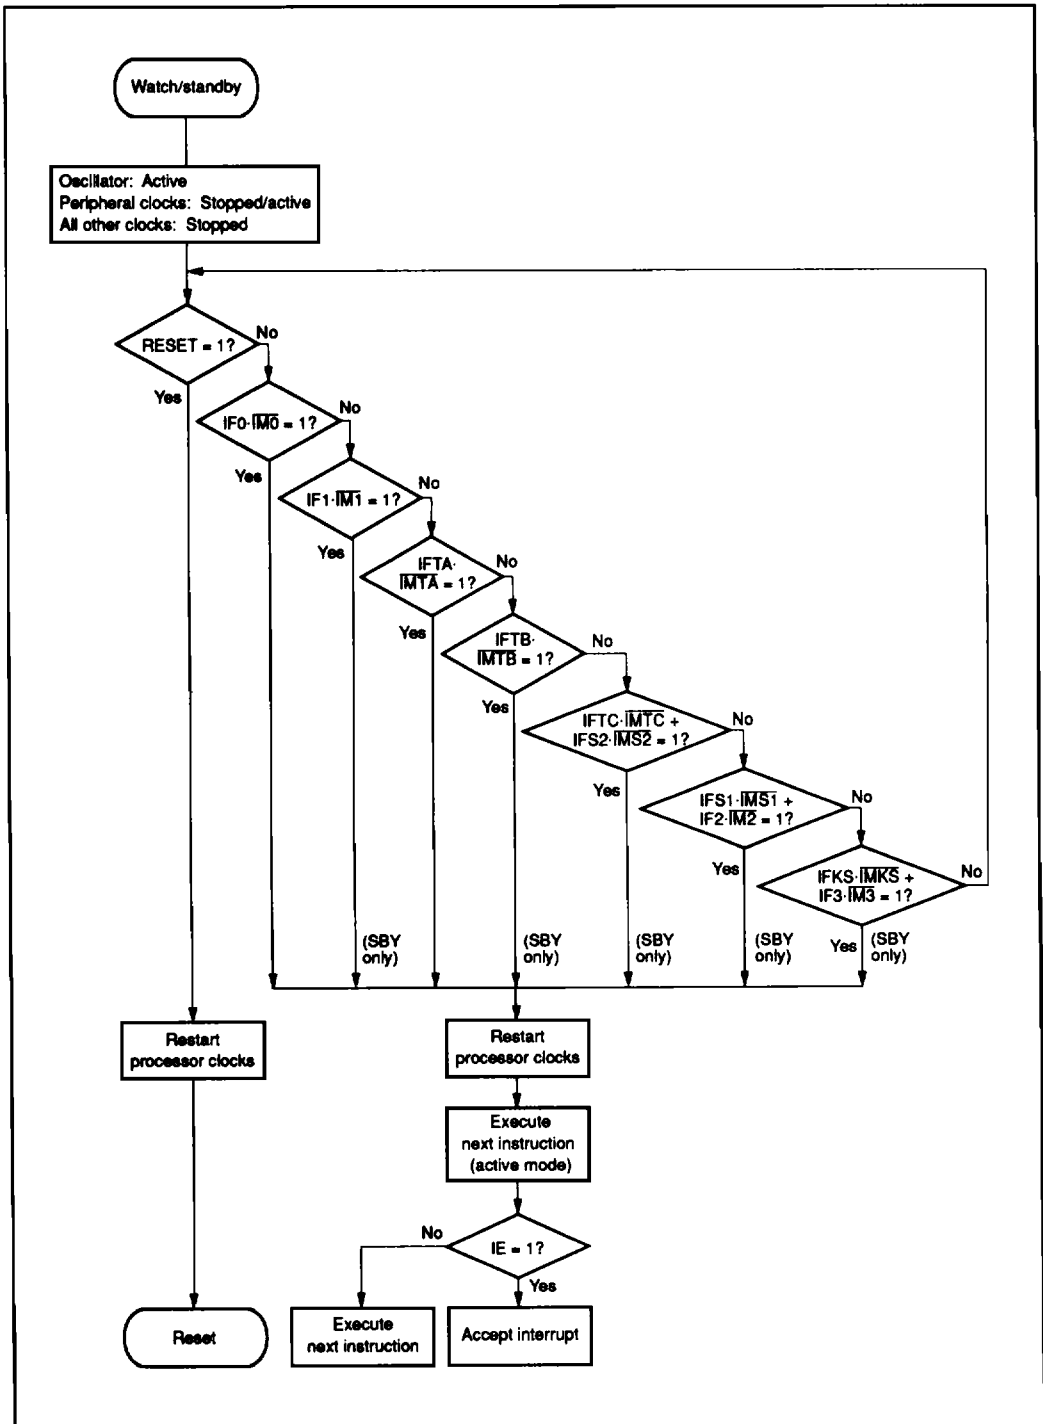
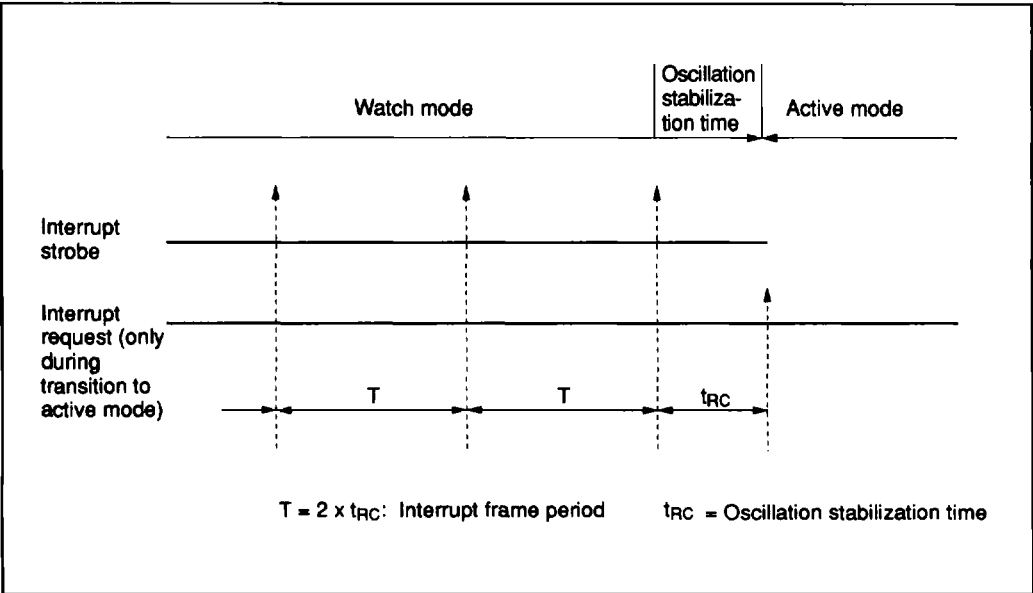

Figure 15 Flowchart of Watch and Standby Modes
Figure 17 Interrupt Frame
Standby mode may be cancelled by inputting RESET or by asserting an interrupt request. In the former case the MCU is reset. In the latter case, the MCU becomes active and executes the next instruction following the SBY instruction. If the interrupt enable flag is 1 when an interrupt request is asserted, the interrupt is executed, while if it is 0, the interrupt request is put on hold and normal instruction execution continues. A flowchart of operation in standby mode is shown in figure 15.
The watch mode is terminated by a RESET input or a timer-A/ $\overline{INT}_0$ interrupt request. For details of RESET input, refer to the Stop Mode section. When terminated by a timer-A/ $\overline{INT}_0$ interrupt request, the MCU enters active mode if LSON is 0 or subactive mode if LSON is 1. Any interrupt request generated for the transition to active mode is delayed for half the interrupt frame period (t_{RC}) to give the oscillation time to stabilize (figure 17). Operation during mode transition is the same as that at standby mode cancellation (figure 15).
Interrupt Frame: In watch and subactive modes, ϕ_{CLK} is supplied for timer A and the $\overline{INT}_0$ circuit. Prescaler W and timer A operate as time bases to generate interrupt frame timing. Three interrupt frame cycles (T) can be selected by the settings of miscellaneous register 1, as shown in figures 17 and 18.